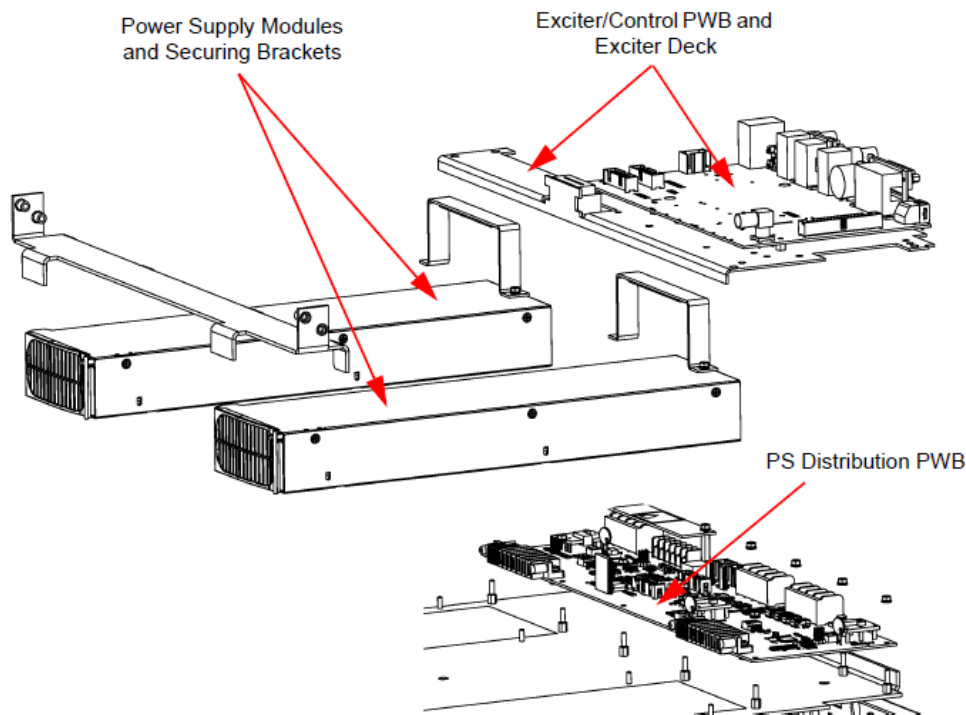

Figure 2: Orientation of Installed Items – Exploded View
Refer to Figures 2, 3 and the attached Mechanical Drawing MD-4 for reference.
- (d) Install the Power Supply Distribution PWB on its 11 mounting pillars (see Figures 2 and 3). Use hardware retained in step 2.2 (d) to secure the PWB (not all hardware is reused), using a 5.5-mm nut driver for nine M3 nuts, split and flat washers, and a 6-mm nut driver for two pillars near TB1 and TB2.